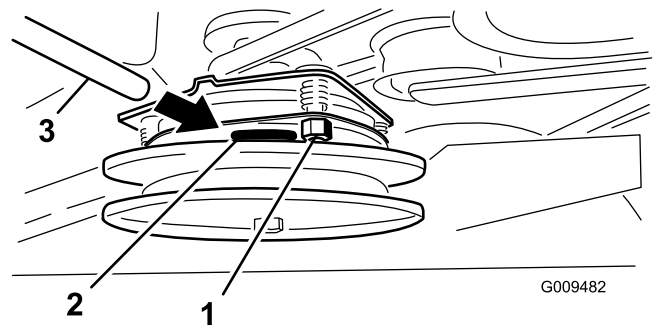

Figure 59
3. Tighten the locknuts until there is slight binding on the feeler gauge, but it can be moved easily within the air gap (Figure 59).